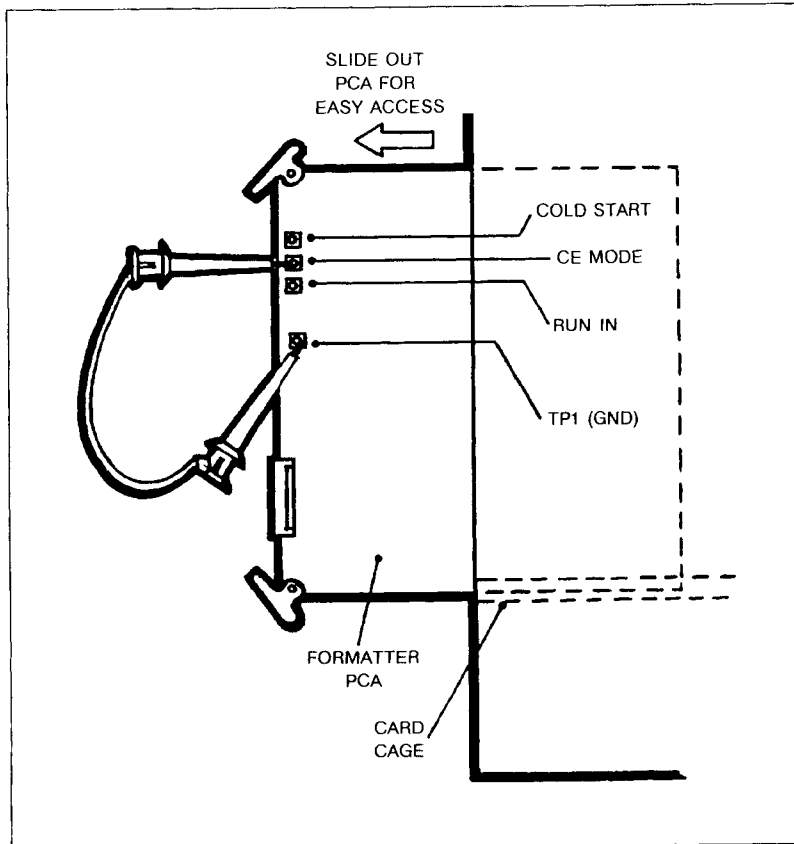

Figure 4-1. CE Mode Jumper Installation
- a. Switch the printer offline and the ON/OFF switch to the OFF(0) position.
- c. On the outside edge of the Formatter PCA, install a jumper from test point CE MODE to GND (see Figure 4-1). The jumper may also be grounded on the cardcage's metal frame.
- d. Set the printer's ON/OFF switch to the ON (1) position.
- a. Switch the printer offline and the ON/OFF switch to OFF (0) position.
- c. On the outside edge of the Formatter PCA, install a jumper from test point COLD START to GND (see Figure 4-1). The jumper may also be grounded on the cardcage's metal frame.
- d. Set the printer's ON/OFF switch to the ON (1) position. Powering the printer on, performs a hard reset.